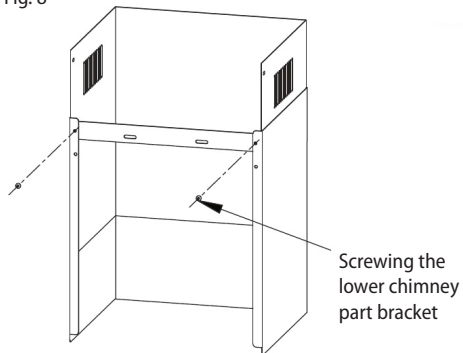

Fig. 9
9. Place the lower part as well as the upper part of the chimney on the hood hung (Fig. 9). Lift the upper part up to the required height and mark holes on the wall for attachment of the upper chimney part bracket. Subsequently remove the lower as well as the upper chimney part.